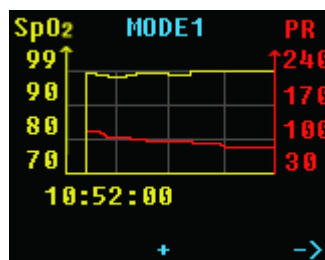

Figure5. **Review Interface 1**
- a) On the measuring interface, press "up button" to enter the **Review Interface 1** directly, as shown in figure5: